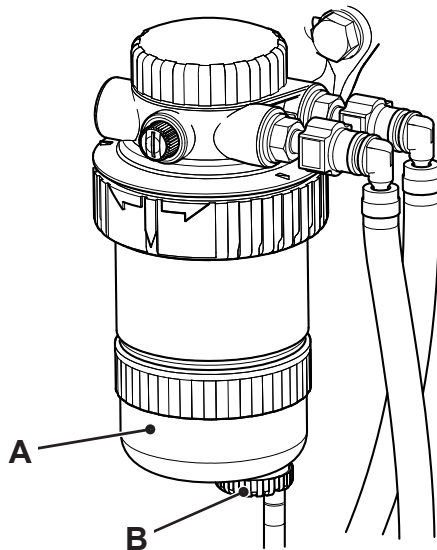

Fig 17.
- 2 Look in the bowl **A**. If there is any sediment in the bowl replace the fuel filter element. ⇒ Replacing the Fuel Filter Element \(Tier 3 Machines\) \(□ 3-38\). If there is water but no sediment, drain off the water by opening tap **B**. ⇒ Fig 17. \(□ 3-37\)